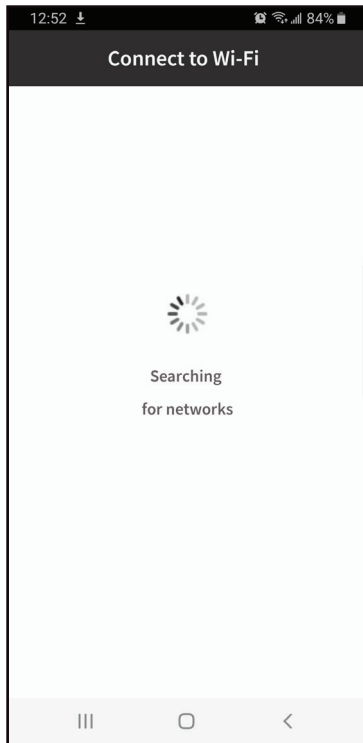

Fig. 7
5. Select desired wifi and connect by entering the wifi password of your home (Fig. 7 & 8).